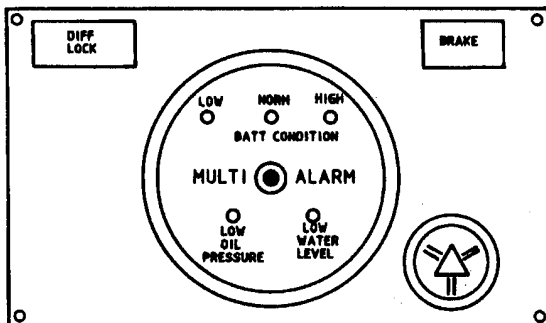

Figure 2 — Centre Dash Panel
- b. Fit low water sensor, item 3, into radiator and tighten to achieve a water tight seal.
- e. With the 2½ inch hole saw enlarge the existing hazard switch hole to accommodate the display unit, as per Fig 2.
- f. Reposition hazard light switch as per Fig 2.